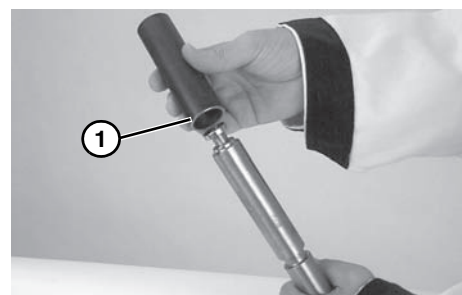

Figure 61
4. Slide sleeve (**Figure 61, item 1**) of tool over bearing.